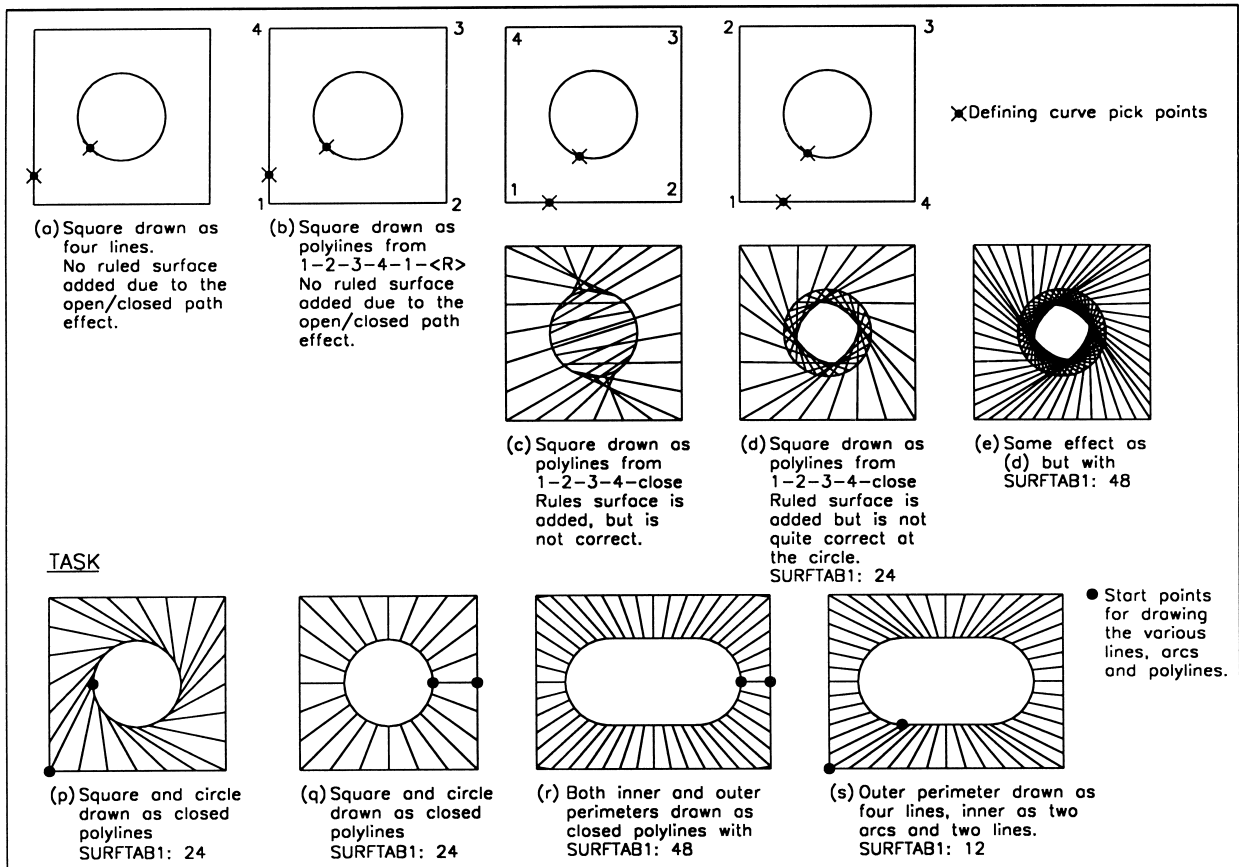

Figure 16.3 Ruled surface example 3 – polylines and circles.
- 1 Begin a new 2D metric drawing from scratch and refer to Fig. 16.3
- Using the information given in step 9, add ruled surfaces to the following models displayed in Fig. 16.3: